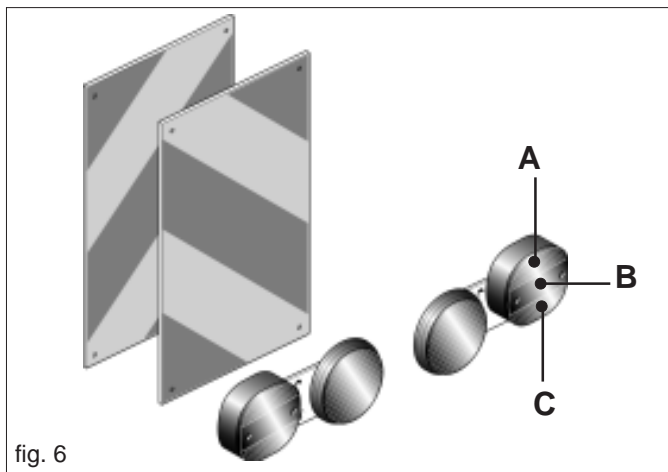

fig. 6
- 35) When the dimensions of carried or partially-carried equipment conceal the tractor's signalling and lighting devices, these must also be installed on the equipment itself, in conformity with regulations of the highway code of the country involved. When in operation make sure that the lighting system is in perfect working order. It is also important to remember that the correct signalling sequence of the headlights includes (Fig. 6):